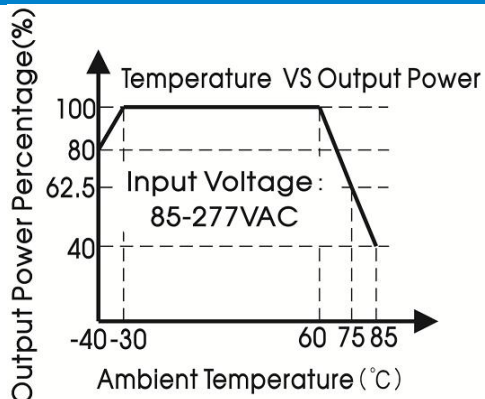

Figure 1
3. FIG. 1, 2, 4 and 5 are carried out under the condition of 25CFM at a high temperature of 75°C to 85°C;